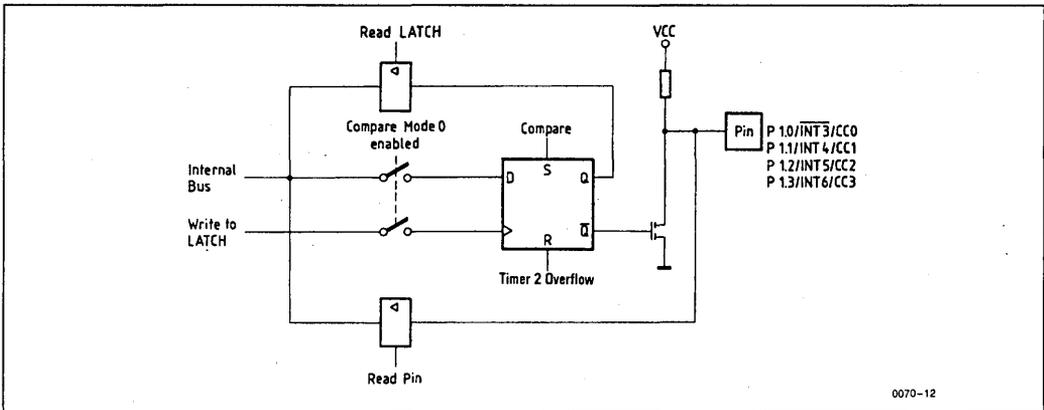

Figure 22. Functional Diagram of Port Latches P1.0 to P1.3 in Compare Mode 0
In mode 0, upon a match, the output signal changes from low to high. It goes back to a low level on timer 2 overflow. As long as compare mode 0 is enabled, the appropriate output pin is controlled by the timer 2 circuit, and not by the user. Writing to the port will operate as "dummy" instruction. Figure 22 shows a functional diagram of the port 1 latches P1.0 to P1.3 in compare mode 0. The port latch is directly controlled by the two signals Timer2 overflow and compare. The input line from the internal bus and the "write-to-latch" line are disconnected when compare mode 0 is enabled.
*) See Figures 22 and 23